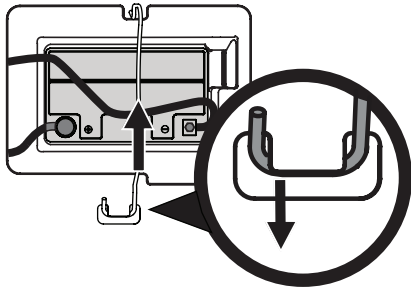

Figure 14
NOTE: Wiring harness should lay on top of battery hold down rod, otherwise damage to the wiring harness may result. See Figure 14 on page 13.
3. Remove the battery hold down rod by pushing the hooked end out of the tab on the fender to the right side of the battery. Then flip the battery hold down rod up to free the battery. See Figure 14.